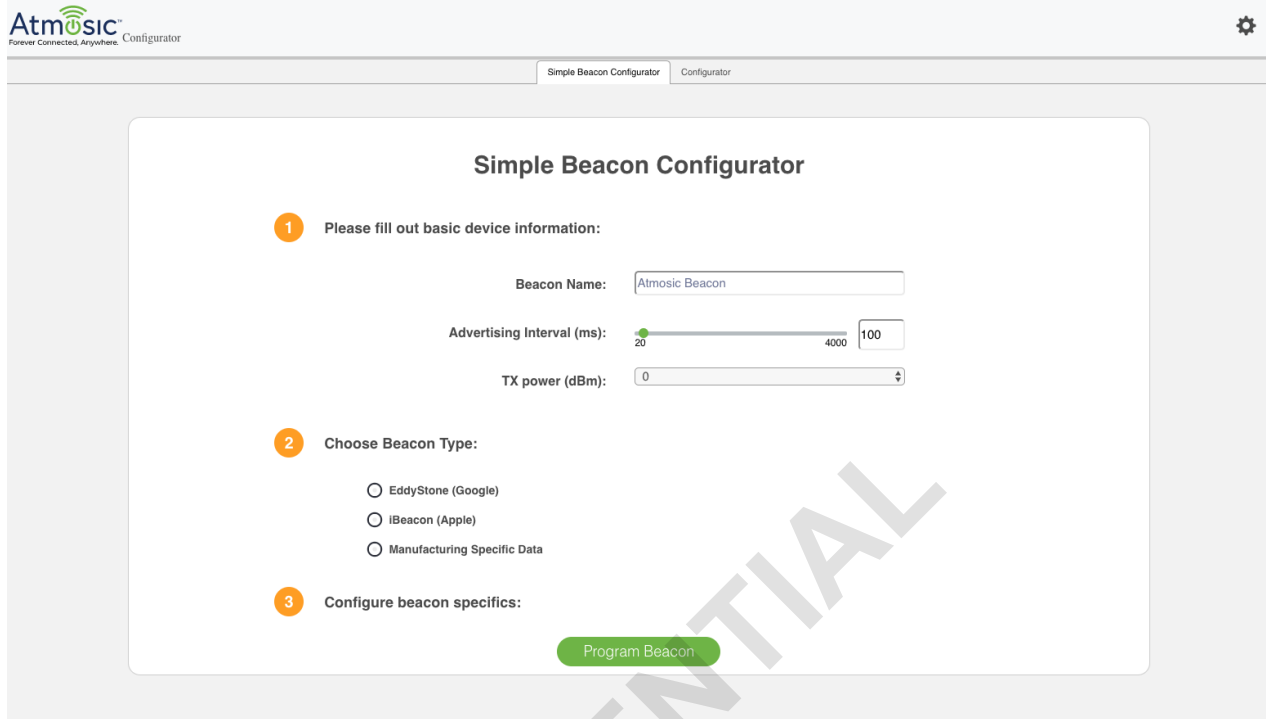

Figure 19 - Simple Beacon Configurator
- Figure 19 - Simple Beacon Configurator
Atmosic EVK comes with a pre-programmed Beacon application in Flash. Simple beacon configurator web tool allows the user to change/tune a few parameters of this beacon. This tool allows beacon configuration as Eddystone or iBeacon or Beacon with Manufacturer specific data. See Figure 19.